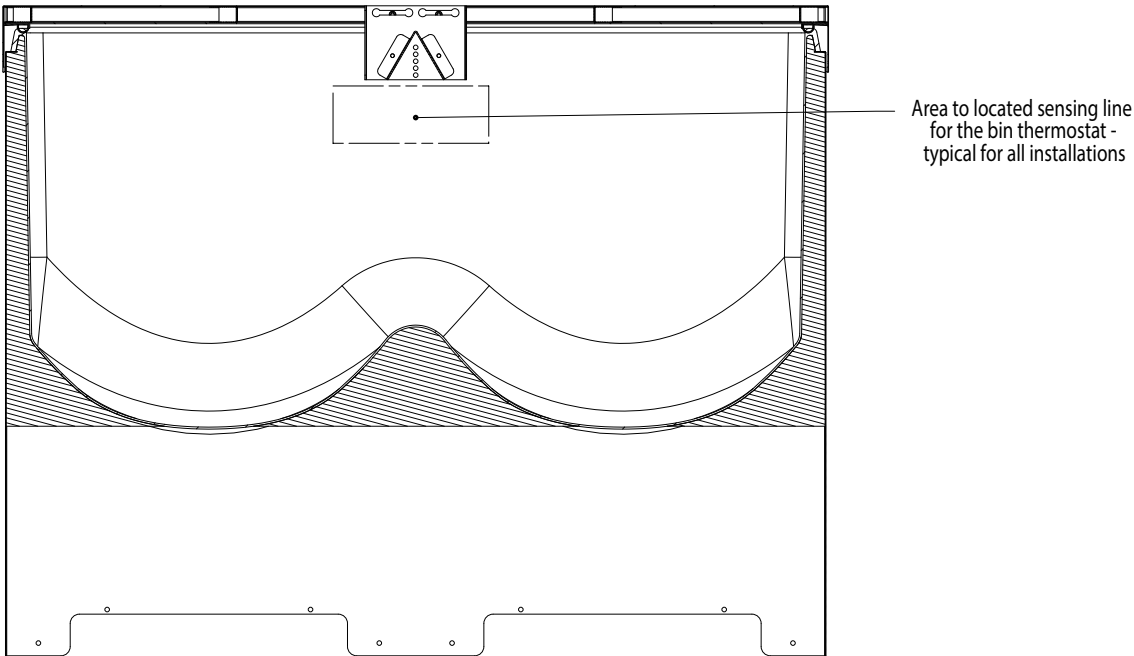

Figure 6.
10. ED/DF300 only – Tighten the four (4) ice deflector mounting screws.
12. Install Icemaker bin thermostat just underneath ice deflector, see Figure 6 for location area.